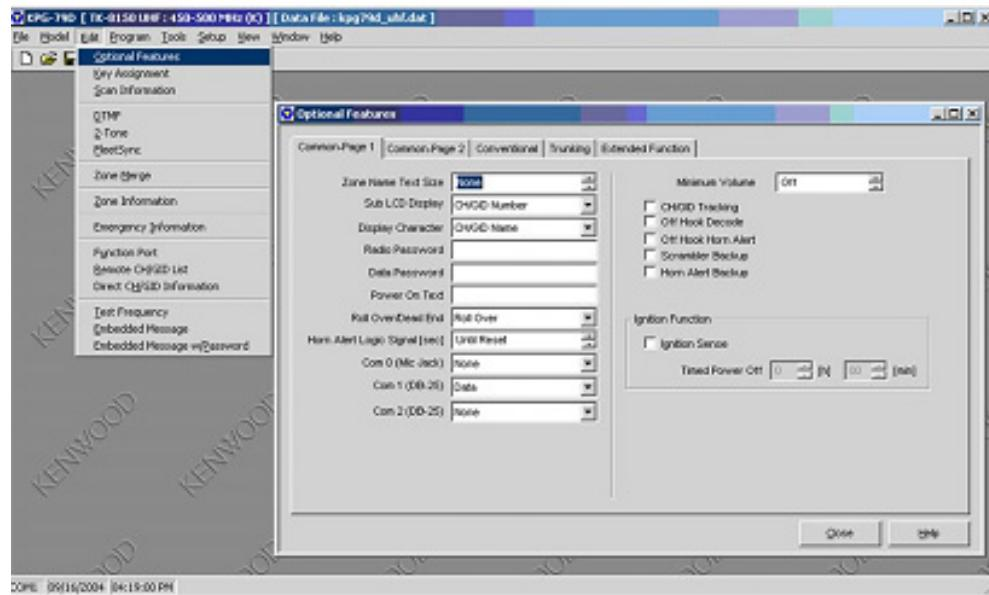

FIGURE 16. TK-x150/180 Com 1
2. Program Com 1 for DATA (Figure 16).